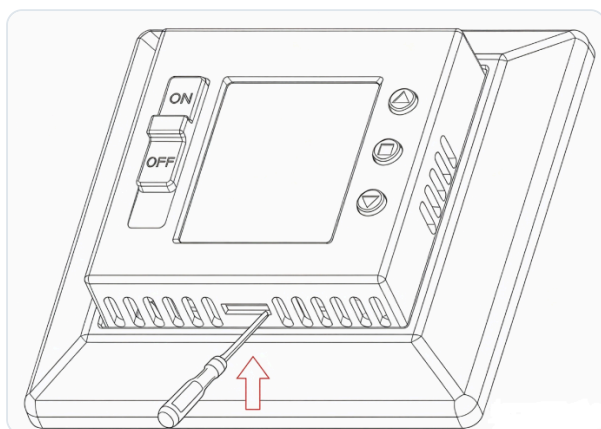

Fig. 1
- **Fig. 1:** Insert a screwdriver into the locking hole on the thermostat cover and pry it upwards.